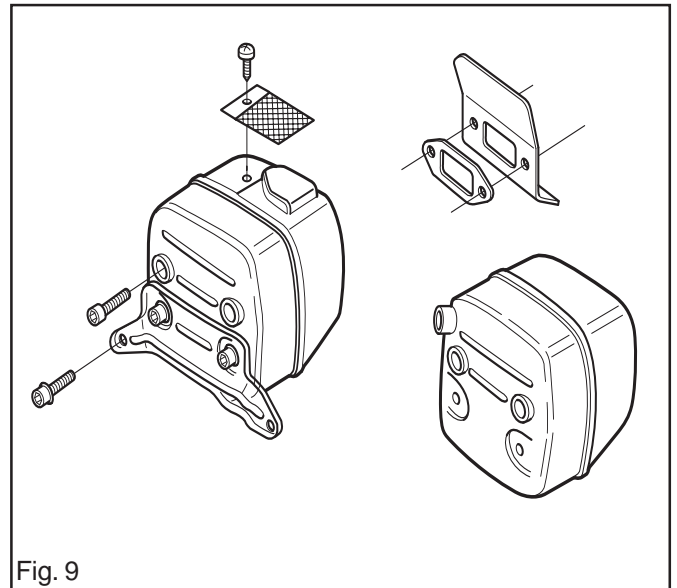

Fig. 9
Note – left-hand thread! See fig. 9.
1. Remove the two lower M5 bolts and the muffler's two M6 bolts. See fig. 9
2. Remove the gasket and cooling plate. See fig. 9
3. If the saw is fitted with a spark-arrester, remove it. See fig. 9.
2. If the saw is fitted with a spark-arrester, refit it. See fig. 9.